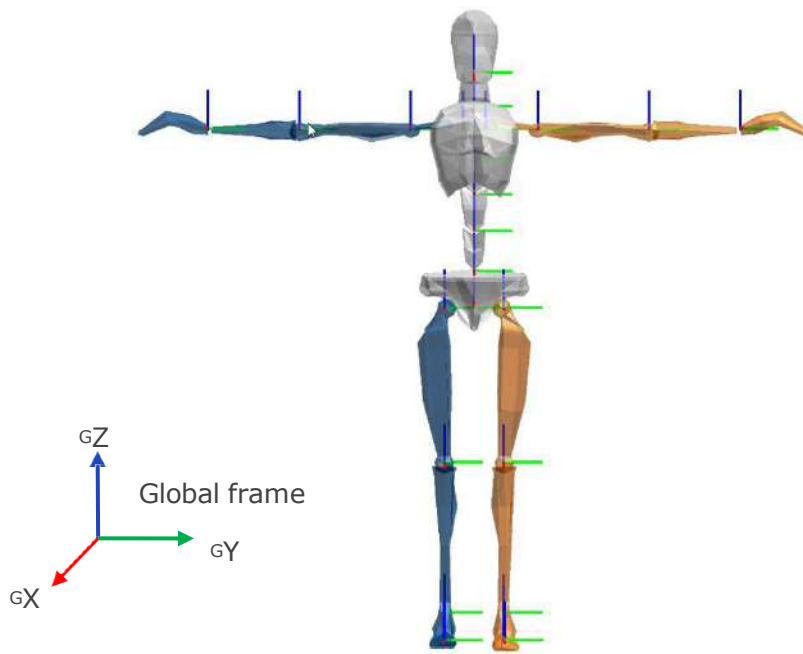

Figure 89: Segment coordinate system at each segment origin, as is used in MVN. Legend: x: red, y: green, z: blue
The axes of each body frame (B) are aligned with this Global reference frame (G) when the subject is standing in the T-pose as shown in Figure 89.
The section <segments> defines all positions (pos_b) of connecting joints (prefixed with a "j") and anatomical landmarks (prefixed with a "p") with respect to origin of that segment (in body frame *B*). The body frame (*B*) of this list of points is defined by Figure 89.